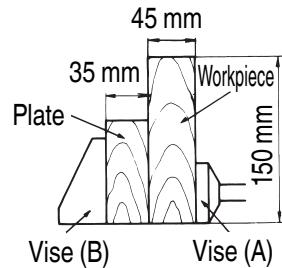

Fig. 11
- (2) Fig. 11 shows dimensions for wide workpiece cutting at an angle of 45°. The use of a plate as illustrated in the figure permits cutting of wide workpieces of up to 45 mm (width) x 150 mm (height). When the tool is shipped, the saw blade is set in the 130 mm position. Adjust handle position to cut wide workpiece of 150 mm in height. (Refer to p. 27 ; "4. Handle position adjustment".)